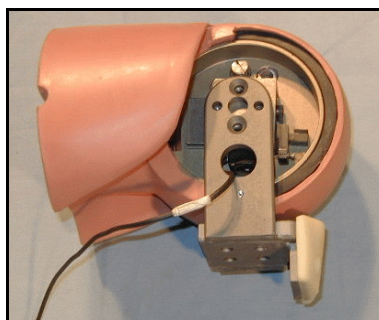

Figure 3.40 - Knee Clevis
3. Pass the end of the knee shear string pot wire out through the hole in the side of the clevis. (Note: The string pot assemblies will always be on the inside of the knee assemblies.) With the foot oriented in the correct position, and the tibia at right angles to the axis of the femur, slide the Knee Clevis over the rotary knee blocks of the ball bearing slider assembly, as shown in **Figure 3.40**. The knee shear string pot wire is secured with a strain relief as shown.